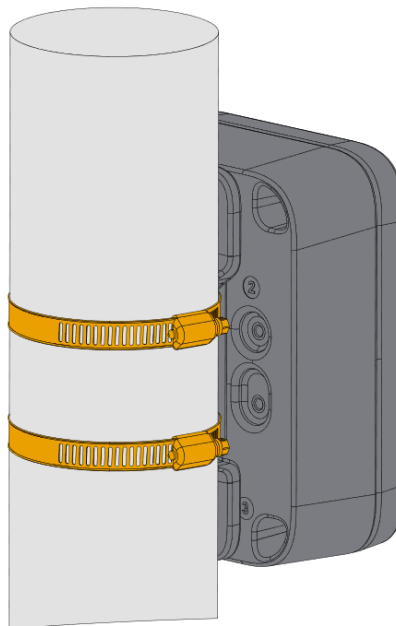

Figure 15: Fixing the enclosure on the pole
- After fixing the mounts on the enclosure, place the WisBlock Unify Enclosure onto the pole by using two (2) steel strips (60-85 mm), as shown in **Figure 15**.